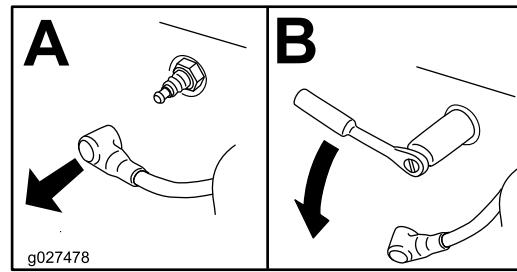

Figure 44
- Remove the spark plug (Figure 44).